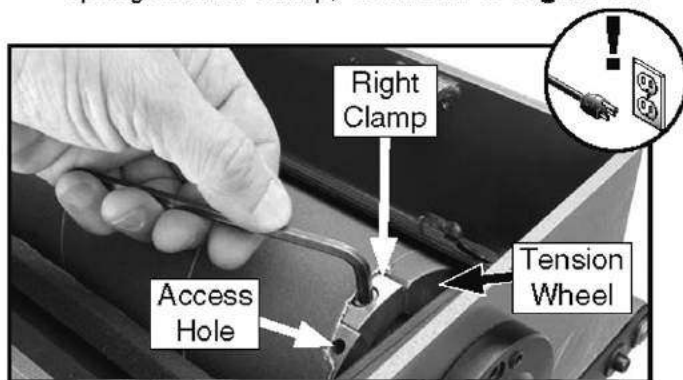

Figure 19. Example of loosening cap screw on right spring-loaded clamp (dust hood removed for clarity).
2. Open top cover and loosen cap screw on right spring-loaded clamp, as shown in **Figure 19**.